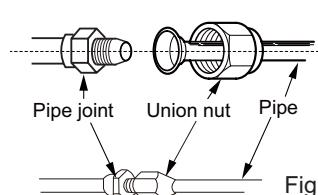

Fig.5
(1) Aim the pipe joint at the corresponding bellmouth.(As show in Fig.5)
(2) Pretightening the union nut with hand.
(3) Adjust the torque force by referring to the following table.